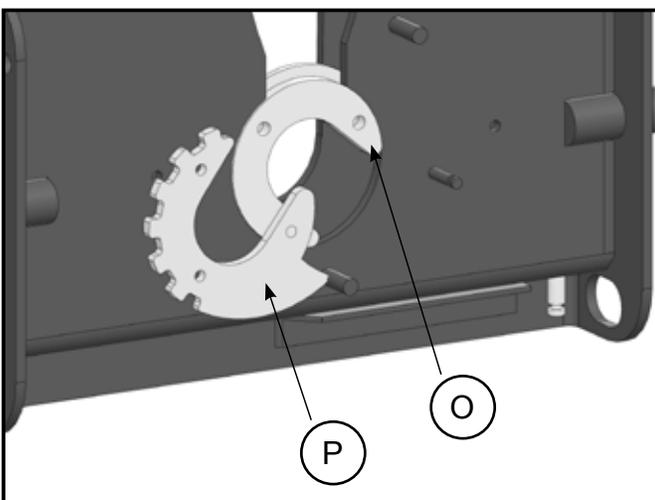

Figure 7
- Spread the Lock Assembly open, as shown in Figure 7.